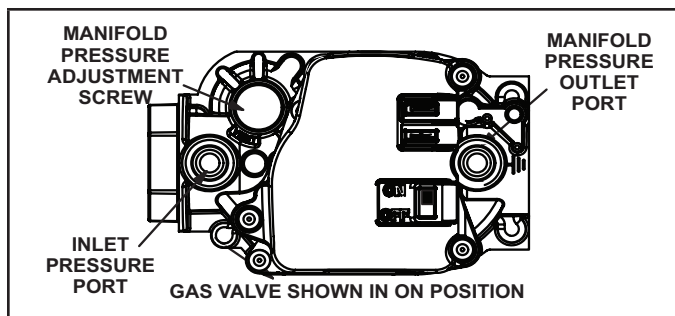
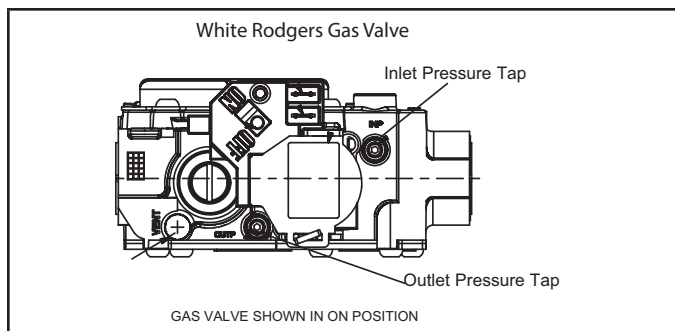

FIGURE 37
FIGURE 38
Gas Valve Operation (FIGURE 37 and FIGURE 38)
- 6 - Move switch on gas valve to **OFF**. Do not force. See FIGURE 37 and FIGURE 38.
8 - Move switch on gas valve to ON. Do not force. See FIGURE 37 and FIGURE 38.